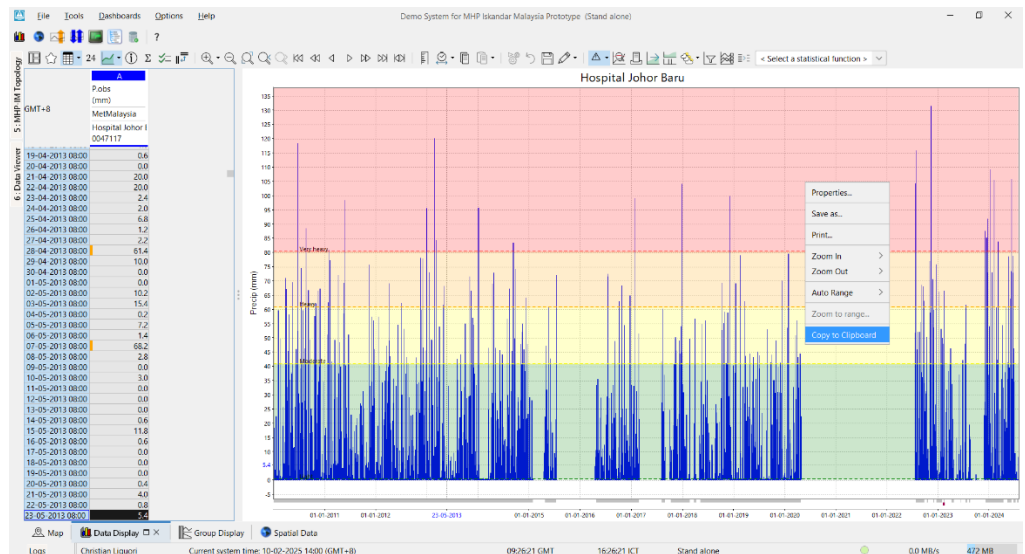

Figure 5.3 Copying Graph Data from a Specific Location
- Step 2:** Right click on any area of the graph and choose 'Copy to Clipboard' (Figure 5.3).